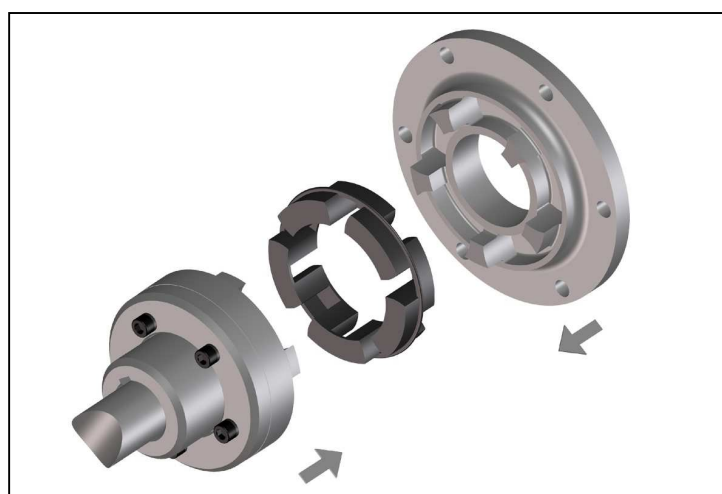

Fig. 6
- Push together the shaft end with the mounted coupling half and the coupling flange (Fig. 6).